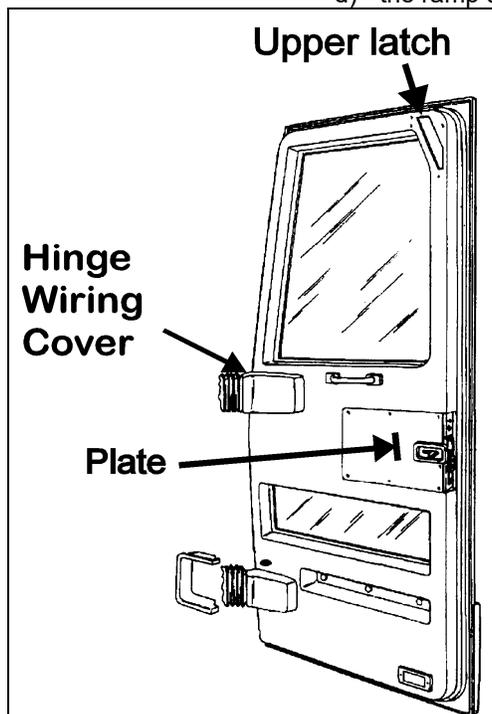

FIGURE 1: ENTRANCE DOOR 18293
1. In order to expose the (1/4" dia) tube and entrance door wiring (Fig. 1 and 2) located on interior side of entrance door, remove the following items: